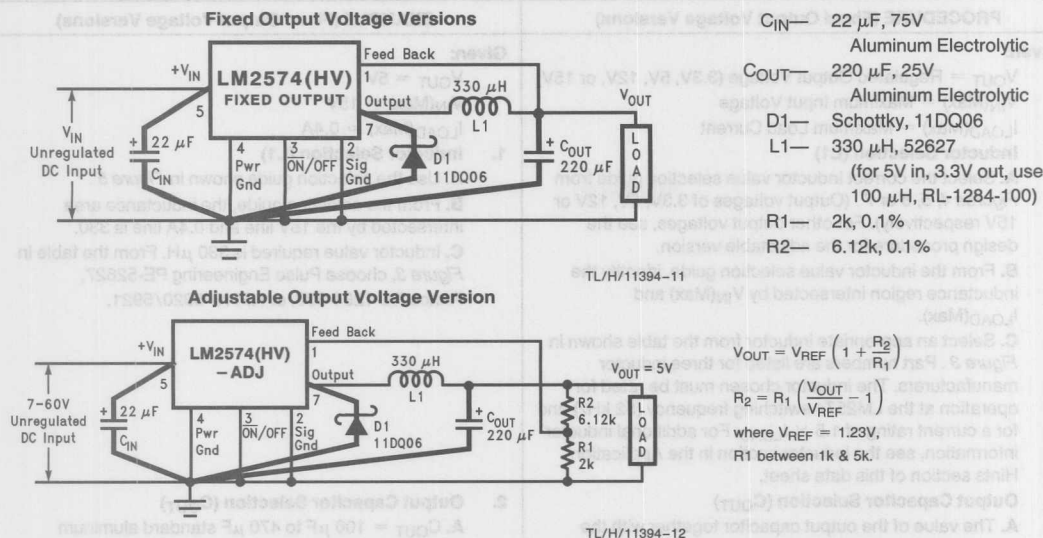

FIGURE 2
\overline{ON}/OFF CONTROL Test Circuit *Figure 2*
Note 3: External components such as the catch diode, inductor, input and output capacitors can affect switching regulator system performance. When the LM2574 is used as shown in the *Figure 2* test circuit, system performance will be as shown in system parameters section of Electrical Characteristics.
Typical Performance Characteristics (Circuit of Figure 2)
Typical Performance Characteristics (Circuit of Figure 2) (Continued)
1. Programming Output Voltage (Selecting R_1 and R_2 , as shown in Figure 2)